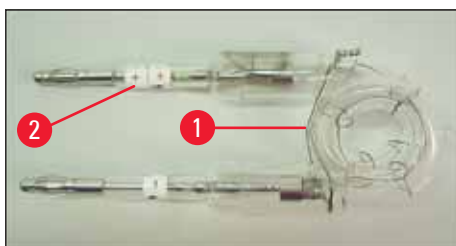
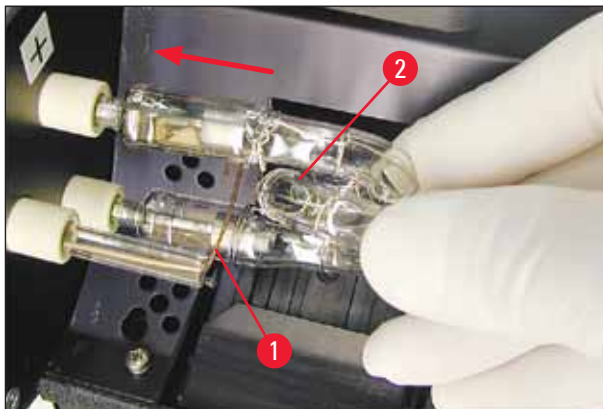

Fig. 21
Fig. 23
2. Insert the new flash bulb (→ "Fig. 21") into socket (→ "Fig. 20-3"); then push it carefully inwards as far as it will go (→ "Fig. 23") (the polarity marker (+) must not be visible any longer). If necessary, move flash bulb gently up and down.